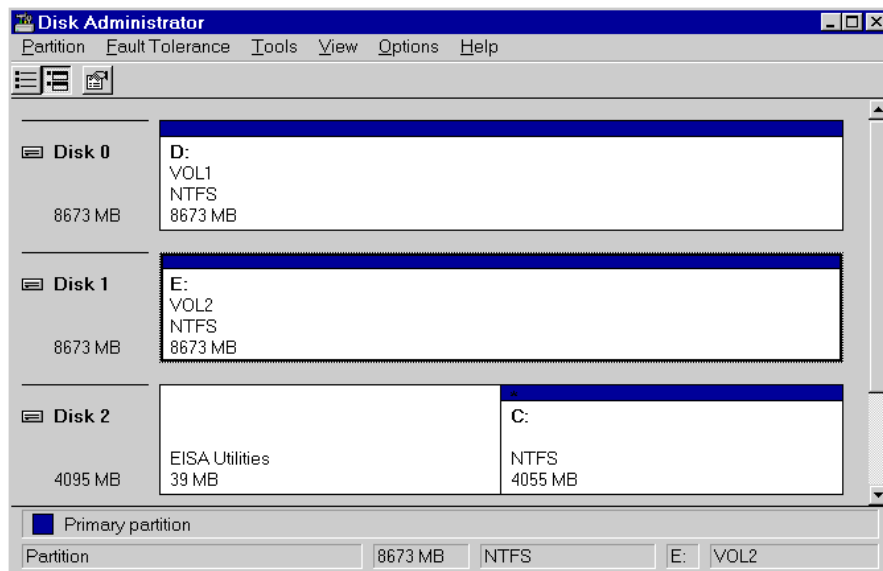

Figure 66: All the Drive Letters Reassigned
7. Repeat Steps 2 through 6 until you have assigned drive letters to all of the partitions that need one, similar to the window shown in Figure 66.